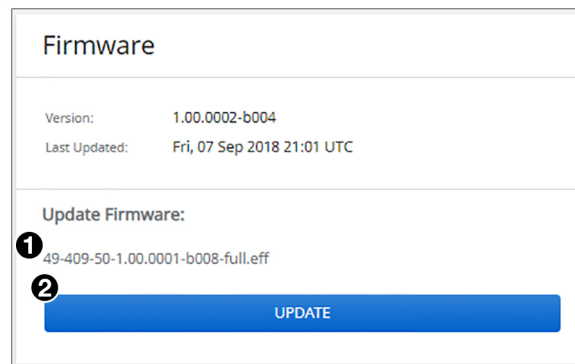

Figure 53. Firmware Update Dialog Box with a Firmware File Selected
3. Double-click the firmware file name. The **Open** window closes, and the selected firmware file name appears in the **Update Firmware** panel on the web page (see figure 53, 1).